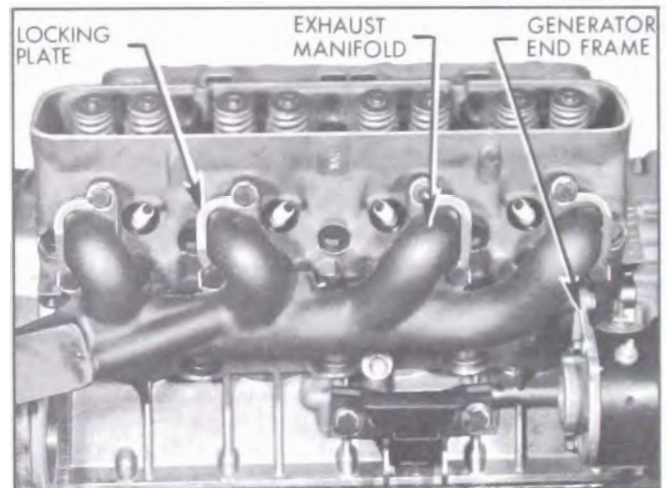

Figure 2-27—Exhaust Manifold Installation (V-8 shown)
3. Assemble exhaust manifold to cylinder head with bolts and locking plates as shown in Figure 2-27. Torque bolts to 10-15 foot pounds.